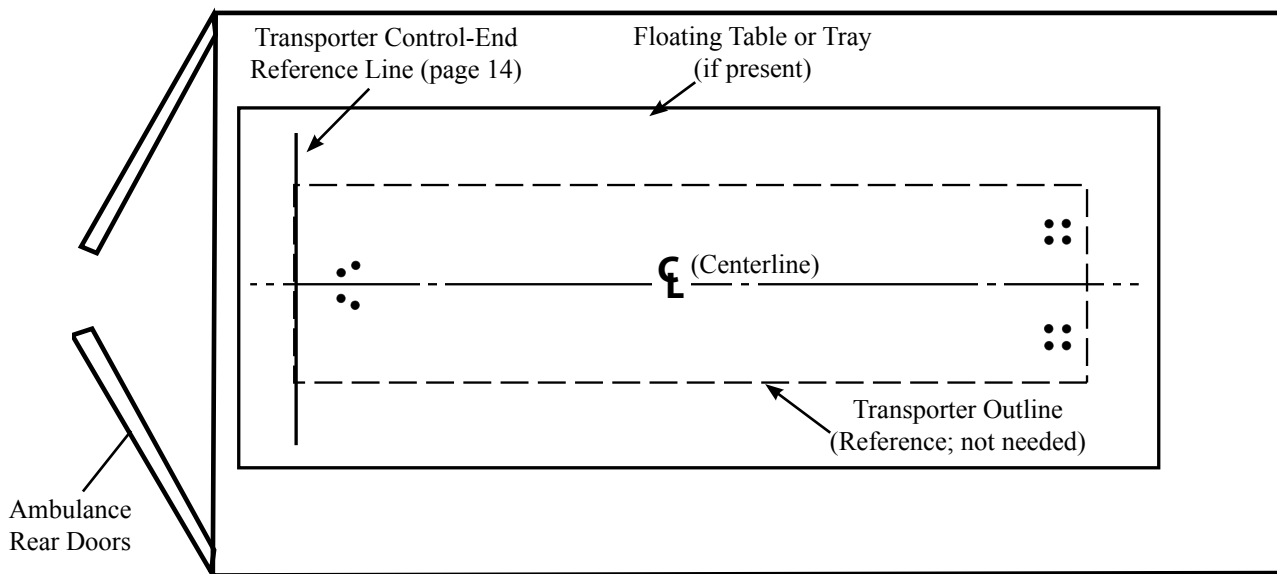

Figure 4 - Ambulance Compartment Layout (Top-Down View)
3. Use a chalk line to mark a straight line between the two points from Step 2. This is the transporter Centerline (Figure 4).
2. Use a chalk line to mark a straight line between the two points from Step 1. This is the transporter Centerline (Figure 4).
1. Use the transporter overall length (see *Transporter Placement*, page 13) to determine where the transporter should sit on the floor, table, or tray. Draw a line perpendicular to the Centerline to represent the exact location of the **control end** (rear) of the transporter (Figure 4 and Figure 5).